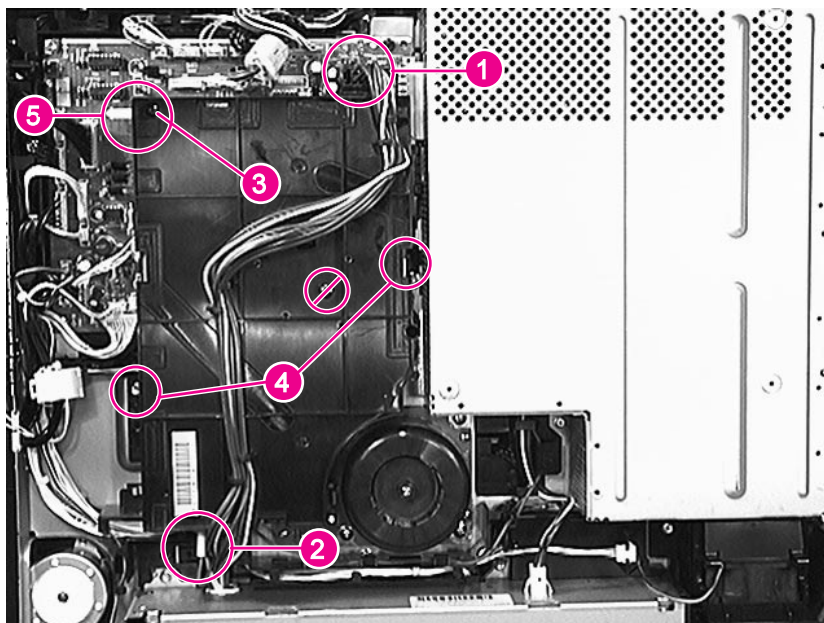

Figure 6-51 High Voltage Power Supply
- High Voltage Power Supply (HVPS) (see figure 6-51 on page 219)
- 2 Remove the HVPS (see figure 6-51 on page 219).
- 3 Remove the High Voltage Power Supply (see figure 6-51 on page 219).
- 2 Unplug the cable from the LVPS to the DC Controller PCA (figure 6-51, callout 1), and move it out of the way.
- 3 Unplug the connector from the bottom of the HVPS (figure 6-51, callout 2).
Do NOT remove the screw indicated in Figure 6-51, beneath the null symbol
- 4 Remove 1 self-tapping screw (figure 6-51, callout 3) and 2 screws (figure 6-51, callout 4).
Make sure that the plastic alignment pin (figure 6-51, callout 5), the connector pins, and the high voltage contacts are properly aligned before replacing the screws.